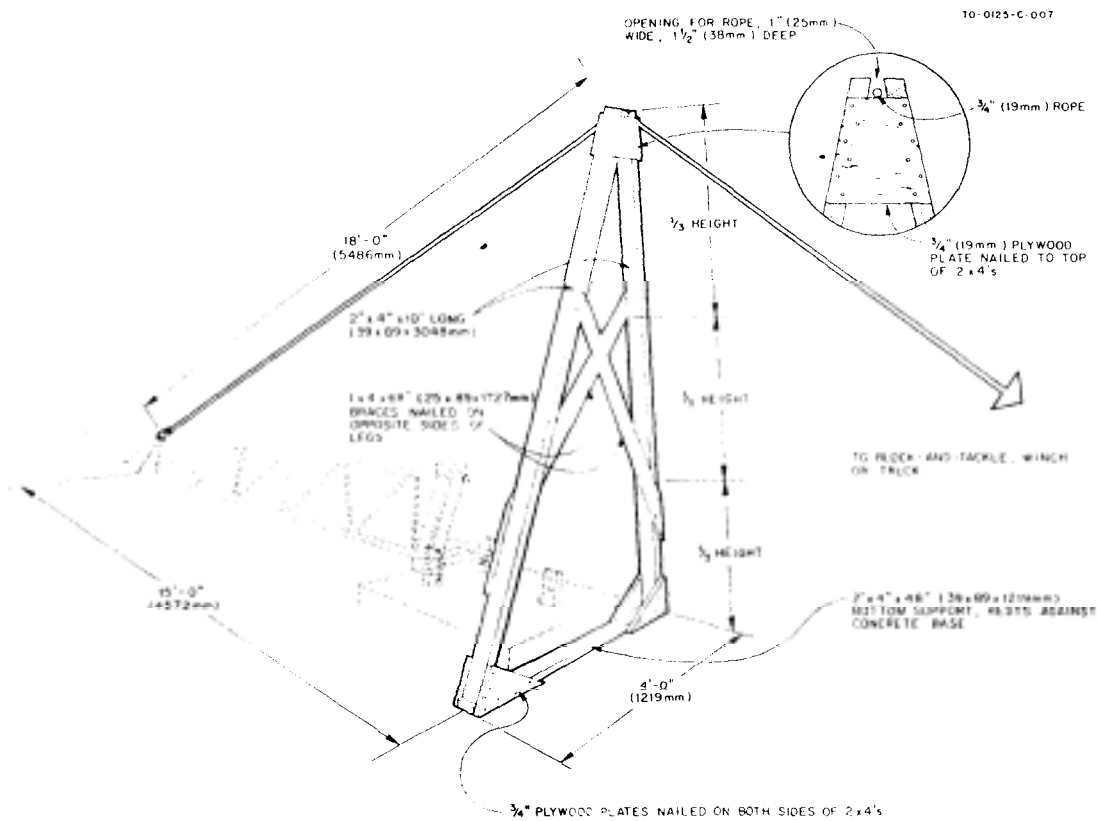

Figure 11
- Lift tower into place with gin pole and block and tackle as shown in Figure 11.